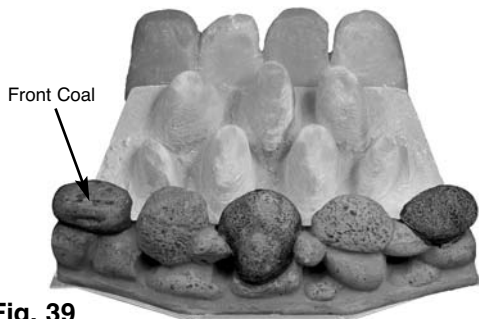

Fig. 39
3. Position the front coal on the front coal retainer, making sure that the back edge is pushed up against the front of the burner strip (Fig. 39).